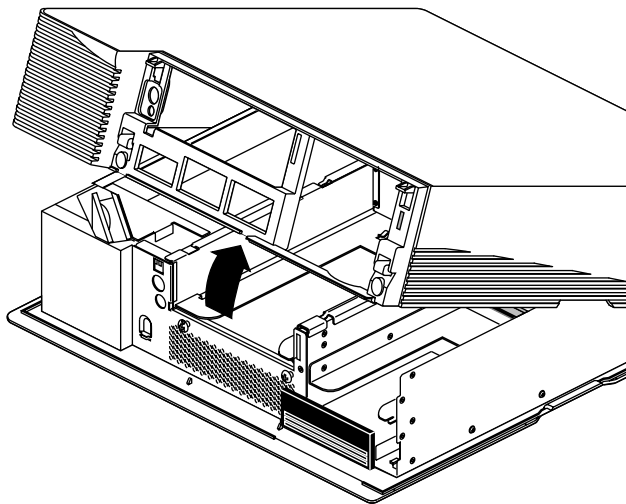

Figure 3-6 Removing the Top Cover
- Pull up on the cover and rotate it back and away from the chassis, as shown in Figure 3-6.